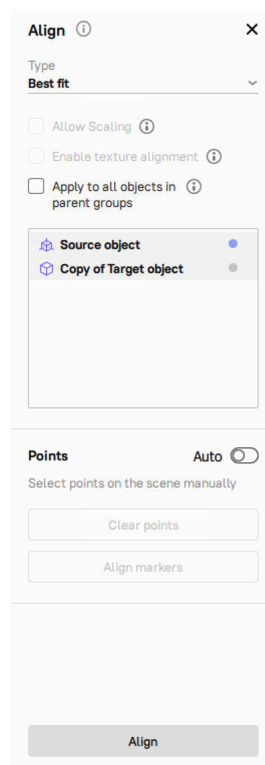

Figure 112: *Align* panel: *Best fit* tab.
3. Select the *Best fit* type in the *Align* panel (see Figure 112).
1. Make sure the *Best fit* type is selected (see Figure 112).
2. Open the *Align* panel. By default, it will open on the *Best fit* tab (see Figure 112).